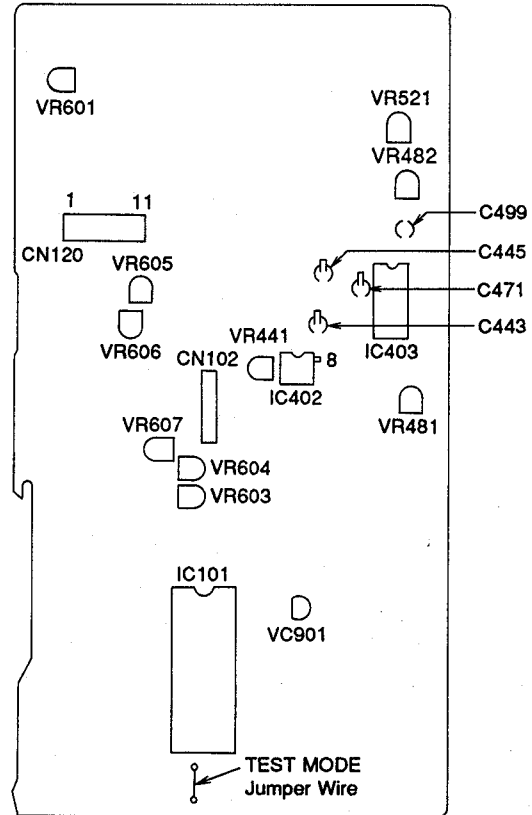

Fig. 2 MAIN assembly section
1. While power is ON, connect the Test mode jumper wire (Fig. 2) to the GND for about one second.